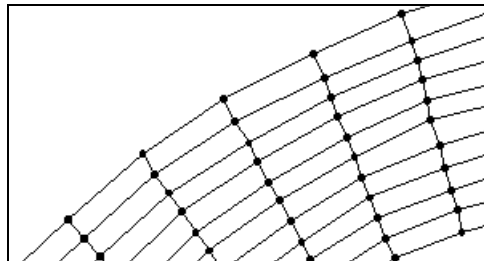

Figure 8-6. The mesh section after merging triangles.
- Repeat the above split/merge process until there are no more triangles across the section. This part of the mesh should look like Figure 8-6.